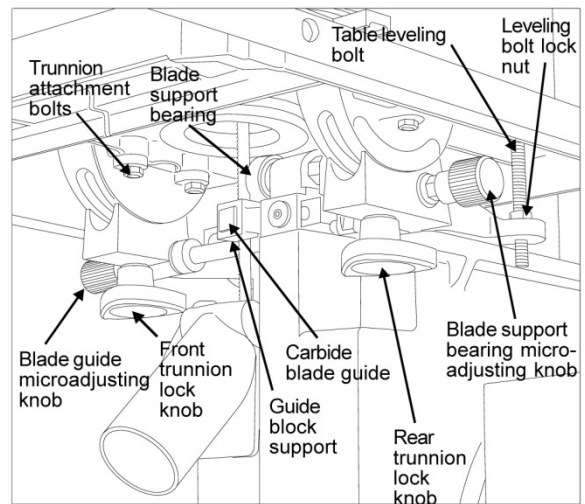

Figure 13: Lower Blade Guide Support – Rear View
- If the measurements are not equal at both ends of the slot, loosen six bolts securing the table to the table trunnions (see Figures 13 and 14.)
17. Using the micro-adjusting knob, move the lower blade support assembly (Refer to Figure 13) forward until the support bearing just contacts the back edge of the saw blade.